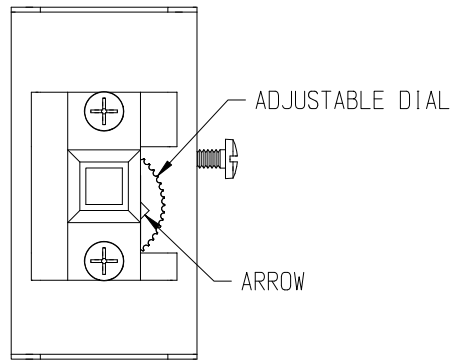

Figure 7.1: Temperature Control
- a. Adjust the dial shown in Figure 7.1 until the desired temperature setting on the dial is aligned with the arrow shown.